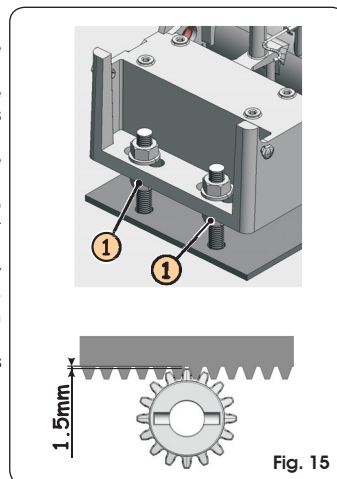

Fig. 15
- After you have finished installing the rack, to ensure correct meshing with the pinion, we advise you to lower the position of the gearmotor by about 1.5 mm (Fig.15).